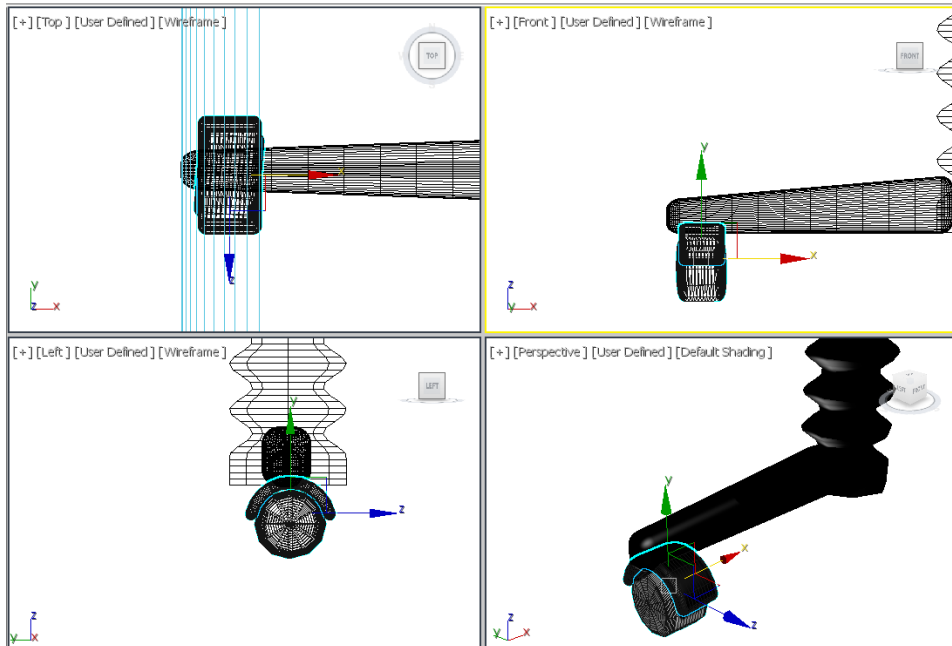

Figure 3-43 Alignment of roller01 with leg01 in viewports
17. Using the **Select and Move** and **Select and Rotate** tools, align *roller01* with *leg01* in all viewports, as shown in Figure 3-43.